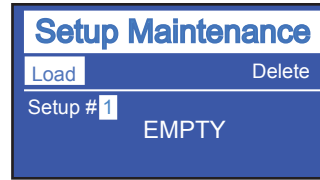

Figure 5-17 Setup Maintenance - 1
1. When the **SETUP** key is pressed for the first time, the display looks like Figure 5-17. This screen indicates that Setup #1 is Empty. Because there is not yet any data available, this setup has nothing in it, and is empty. You will see that **Load** is highlighted. Press **ENTER**.